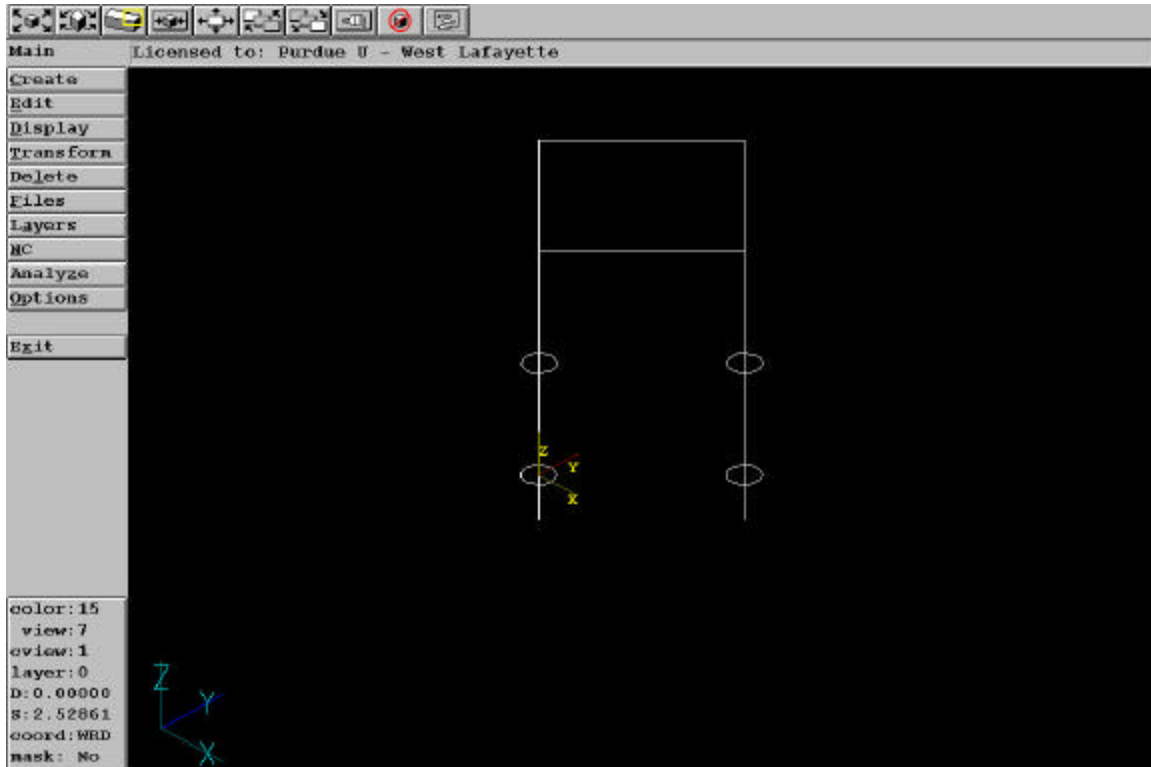

Figure 4: Complete drilling layout
- 9.) ACCEPT the tool path. Figure 4 shows how SurfCAM will appear after the tool path has been accepted, and the  (Zoom out) button has been pressed twice.